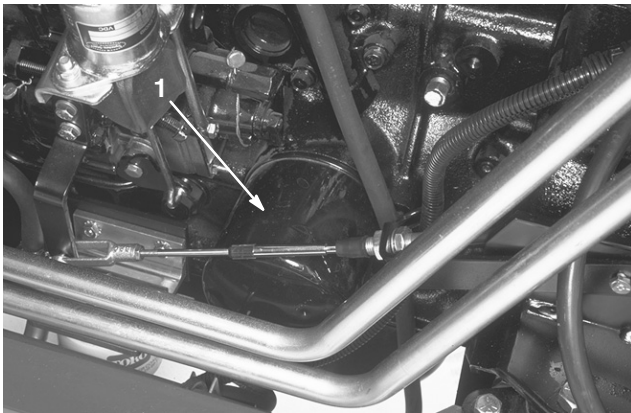

Figure 39
3. Remove drain plug and allow oil to drain into pan. Remove and replace oil filter (Fig. 39); refer to parts catalog for replacement number. Apply a coating of oil to the filter O-ring before installing filter. Refer to the engine manual for the filter tightening procedure.